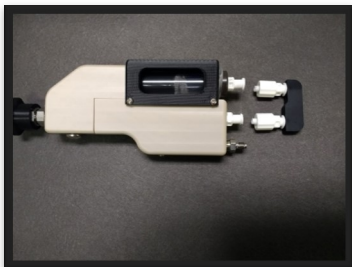

Figure 5.1-1: Luer Couple line removed from the Inline Diluter
- Twist off and remove both ends of the Luer Couple line from the Inline Diluter (Figure 5.1-1).